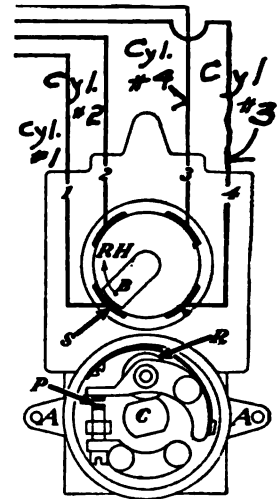

Fig. 23
- 179 — The upper half of Fig. 23 shows a view of the distributor. Unscrew nut No. 55, remove high tension bridge No. 100, remove cap, which gives view of distributor and brush "B." The carbon brush may be removed and scraped if it has a hard, irregular glaze on the surface that distributes the current to the contacts. Occasionally a brush may be worn and carbon dust will be worn off and in falling to the bottom will short-circuit cylinders Nos. 1 and 4. The distributor should be wiped with a clean cloth saturated with gasoline when required. After the magneto has been in service a long time, the face of the distributor may become rough. Dressing the surface lightly with 000 sandpaper is all that will be required.
- 180 — Refer to Fig. 23 on this page and Fig. 33, page 67.
Third: Shift the magneto slowly by hand in the proper direction of rotation till the contact points ‘‘P’’ in Fig. 23 are just commencing to separate. This is the firing point of the magneto and in timing the magneto must occur when the piston is on top center with magneto in full retard. From the full retard the circuit breaker can be advanced about 30 degrees.